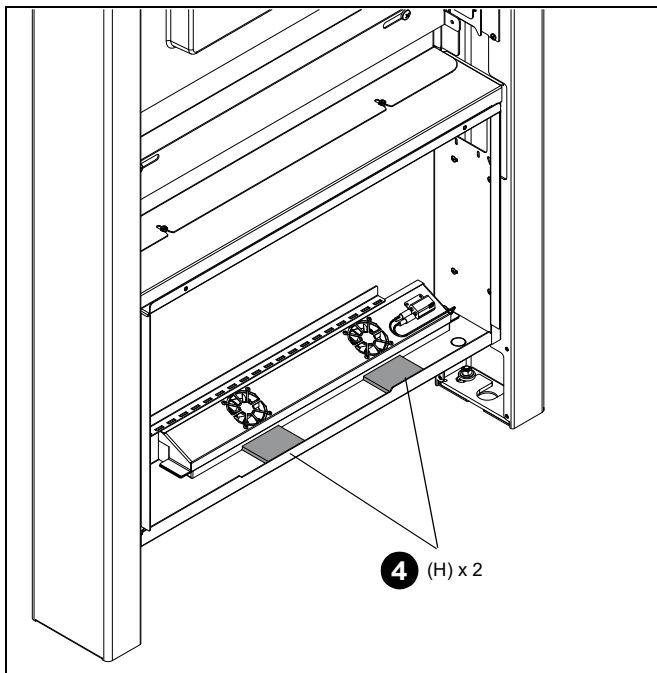

Figure 14
- Insert two small filters (H) into the gaps directly underneath the fans between the filter bracket and the bottom panel of the enclosed storage area. (See Figure 14)